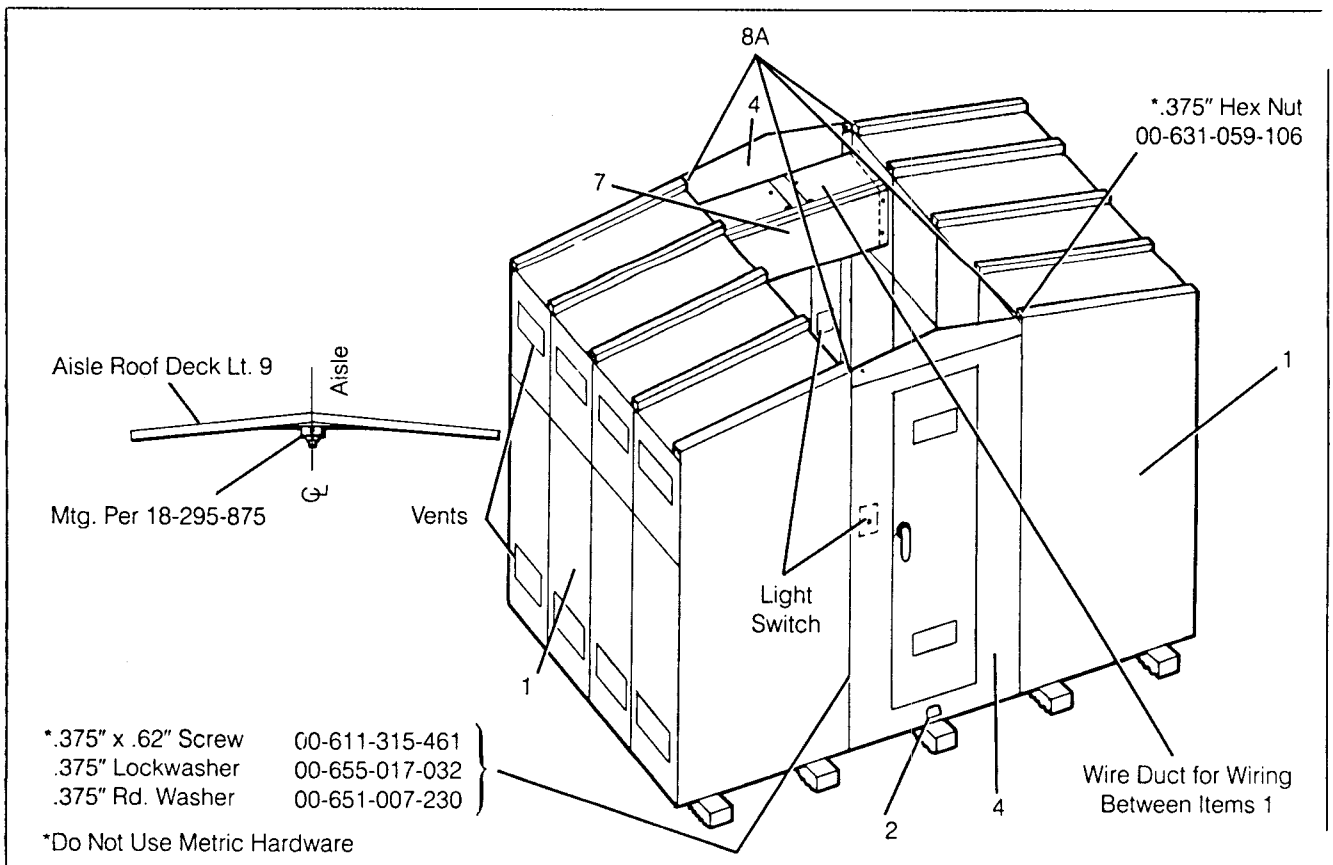

Figure 33. Door Installation — Common Aisle Layout
6. See Figure 33. Raise door assemblies (4) into place. Bolt doors to side plates of cubicles. Bolt to aisle sill using angle (2).